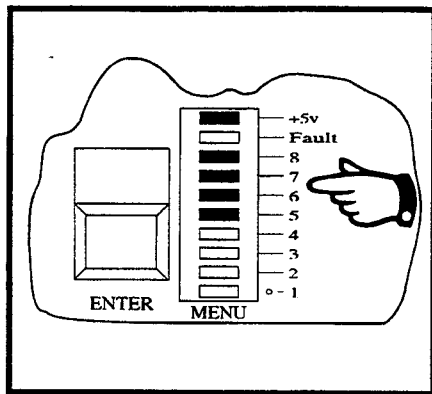

Figure 3-13
- (b) If a current auto-zero fault condition exists, the contacts of the status relay output on the Power Supply card should be open circuit and the **Menu** display should cease scrolling and the segments labelled **8, 7, 6** and **5** should be illuminated simultaneously. See Figure 3-13.
Should the accumulated correction exceed the maximum correction programmed into the instrument, the Model 200 will activate its fault/status relay providing a remote indication, while the **Menu** display on the CPU card will cease scrolling and display the auto-zero fault indication. See Figure 3-13.